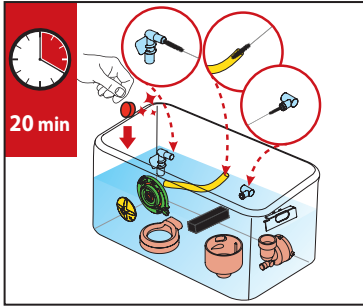

Fig.13
1. Place all the mixing system parts in a bin with a locally approved food grade cleaning agent and hot water and soak for approximately 20 minutes. (See Fig.13)